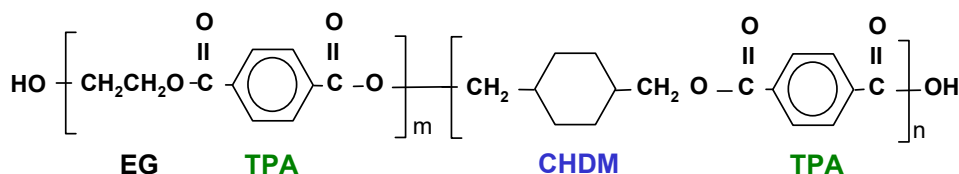

Fig. 1 – Molecular structure of SKYGREEN® copolyester
SKYGREEN® is an amorphous copolyester produced by the reaction of terephthalic acid (TPA) with ethylene glycol (EG) in which a certain amount of the ethylene glycol is replaced with cyclohexane dimethanol (CHDM) – see Fig 1. The addition of CHDM prevents crystallisation, leading to improved processability combined with outstanding toughness, clarity and chemical resistance.